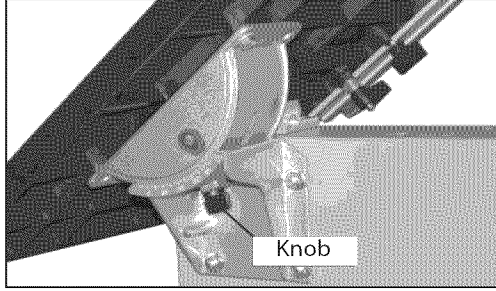

Figure 20 - Tilting the Table
- To tilt the table, loosen the knob on the table trunnion, set the table to the required angle and tighten the knob again (see Figure 20, page 9).